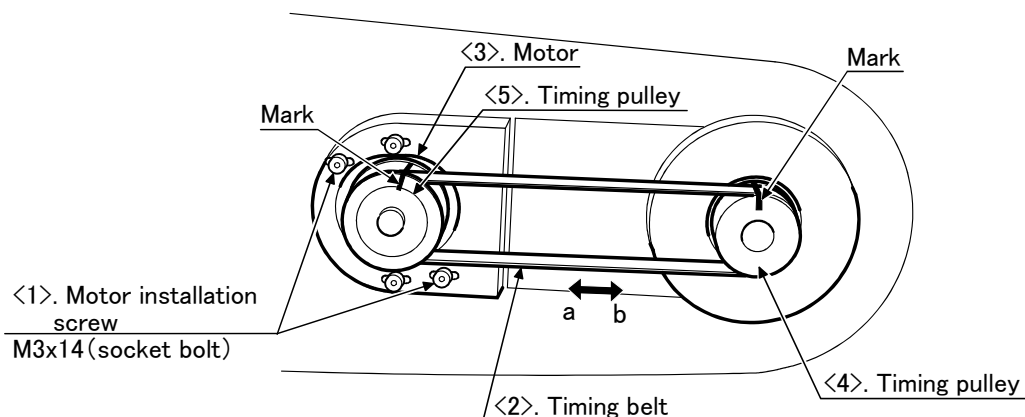

Fig.5-9 : Inspection, maintenance and replacement of J5-axis timing belt
- 1) Fig. 5-9 shows the methods for inspecting, adjusting and replacing the timing belt.
- 5) Make marks on the timing belt <2> and timing pulleys <4> and <5> with a felt-tip pen as shown in Fig. 5-9 so that the engagement of the timing belt <2> and timing pulleys <4> and <5> does not deviate.